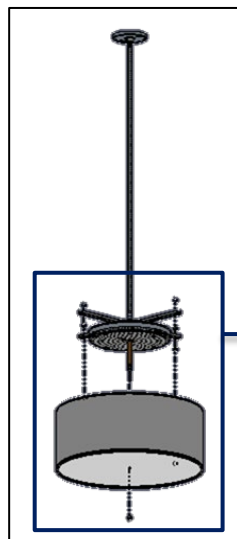
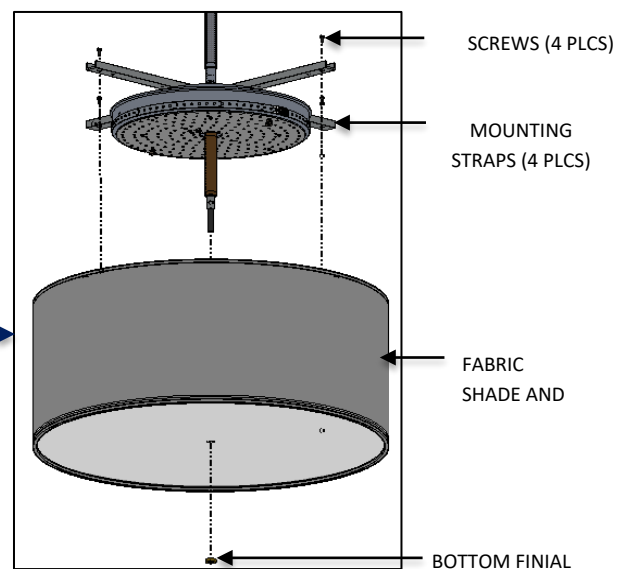

FIG. 22 – FABRIC SHADE AND DIFFUSER INSTALLATION
FIG. 23 – DETAIL SHOWING FABRIC SHADE AND DIFFUSER INSTALLATION
11. Unscrew the BOTTOM FINIAL from BOTTOM STEM ASSEMBLY. Attach FABRIC and DIFFUSER to the MOUNTING STRAPS and secure with the SCREWS provided as shown in FIG. 22. Make sure the center stem is lined up with the hole in the DIFFUSER and attach to BOTTOM FINIAL as shown below in FIG. 23.